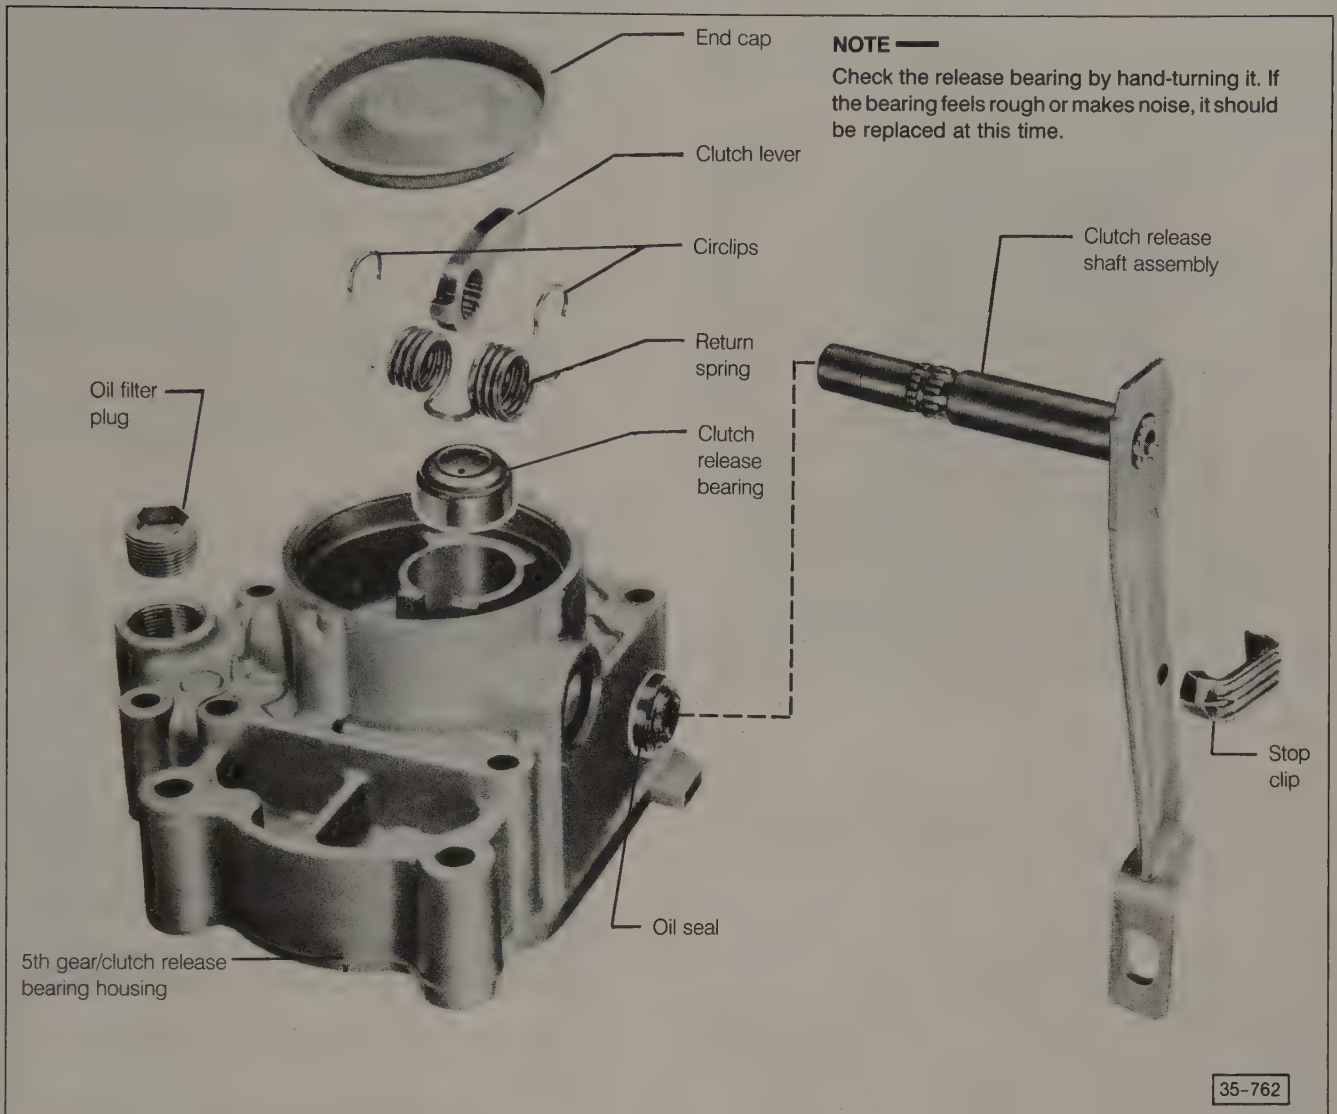

Fig. 6-10. Exploded view of clutch release mechanism.
2. Pierce the end cap and pry the cap out of its recess in the 5th gear/clutch release bearing housing. See Fig. 6-10.